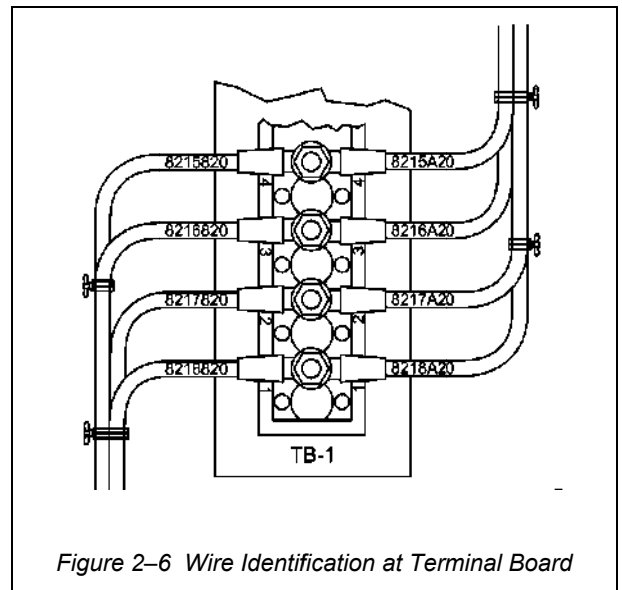

Figure 2-6 Wire Identification at Terminal Board
37. If possible, mark wires attached to terminal boards and equipment terminals between termination and the point where wire enters the wire bundle (refer Figure 2-6). Identify wires terminating within an enclosure, inside the enclosure, if space permits.